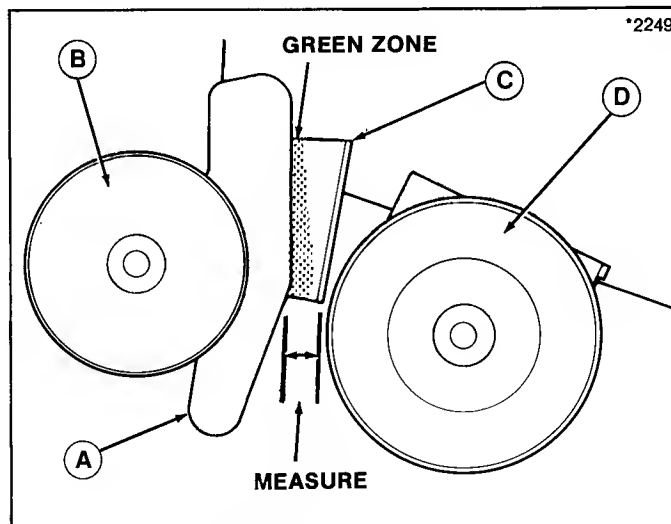

Figure 15. Belt Adjustment
12. If the belt is new, the rear edge of the idler bracket (A, figure 15) should be aligned with the front edge of the green zone shown in figure 15. The distance between idler bracket (A) and stop (C) will be approximately 1-3/16 inch (30 mm).
If the belt has been used before, the rear edge of the idler bracket (A, figure 15) should be in the middle of the green zone shown in figure 15. The distance between idler bracket (A) and stop (C) will be approximately 7/8 inch (22 mm).
13. Push the belt tensioning lever down to release belt tension. Loosen the nut that secures the rear idler pulley (D, figure 15) in the slot. To move the idler bracket (A) forward, move rear idler pulley (D) toward rear. To move the idler bracket (A) toward rear, move the idler pulley (D) forward. Tighten the nut to secure pulley. Pull the belt tensioning lever up and recheck position of idler bracket (A). Readjust if necessary.
14. Operate the tractor with mower engaged for 15 to 30 minutes with a new belt or about two minutes with a used belt. Then, disengage the PTO, stop the engine, remove the key, shift into neutral, set the parking brake. Check position of idler bracket (A, figure 15). If the rear edge of idler bracket is in middle of green zone, the belt adjustment is acceptable. If not, readjust the belt as described in step 13.